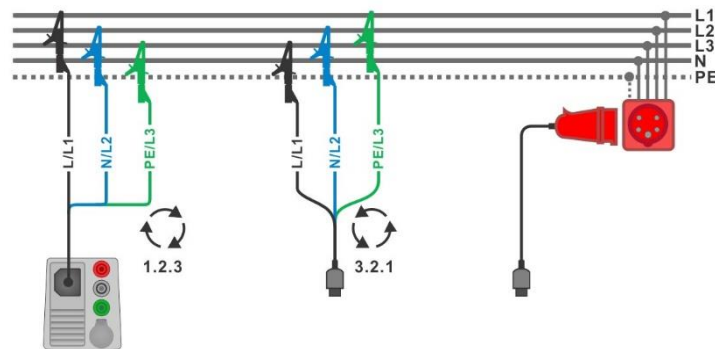
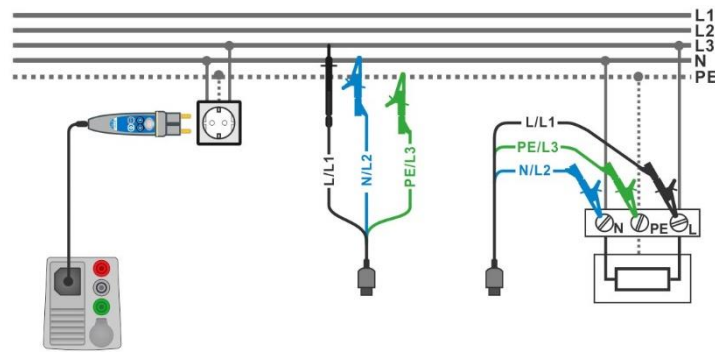

Figure 7.2: Connection of 3-wire test lead and optional adapter in three-phase system
Figure 7.3: Connection of Plug commander and 3-wire test lead in single-phase system
- ▶ Connect test leads to object under test (see *Figure 7.2* and *Figure 7.3*).